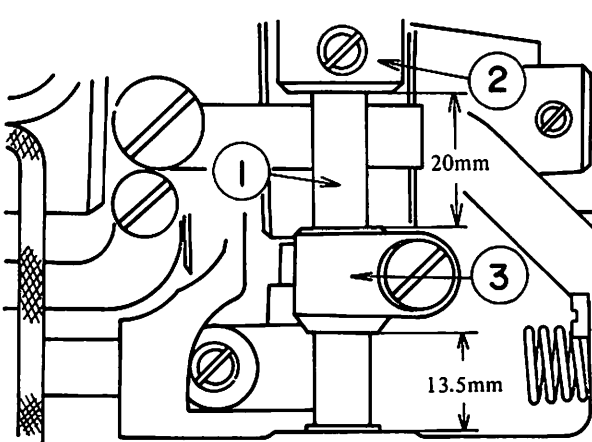

Fig. 34
The moving range of the slide shaft (Fig.34 ①) is 5.4mm($7/32''$). This is adjusted by moving the slide collar (Fig.34 ②) toward the shaft direction. Also, the position of the cam roller shaft arm (Fig.34 ③) should be 13.5mm($33/64''$) as shown in Fig.34.
① Determine the position of the thread trimming arm stopper depending upon the position of the hook thread presser.
② Adjust the position of the slide collar so that the moving range of the slide shaft comes to 5.5mm($7/32''$).
③ Adjust the position of the thread trimmer magnet (DC solenoid).